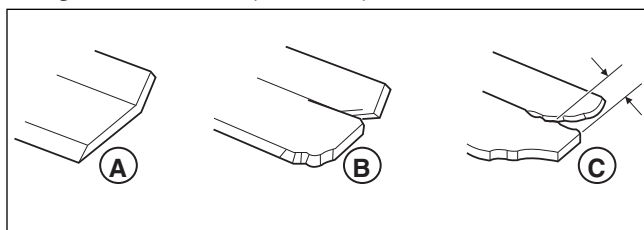

Figure 23. Inspecting the Mower Blade Air Lifts
- A.) Has more than .5" (12,7 mm) of the mower blade metal removed from previous sharpening or wear (D, Figure 23).
- B.) The air lifts are excessively eroded (B & C, Figure 23) and the notch (C) is .25" (6,35 mm) deep or greater.